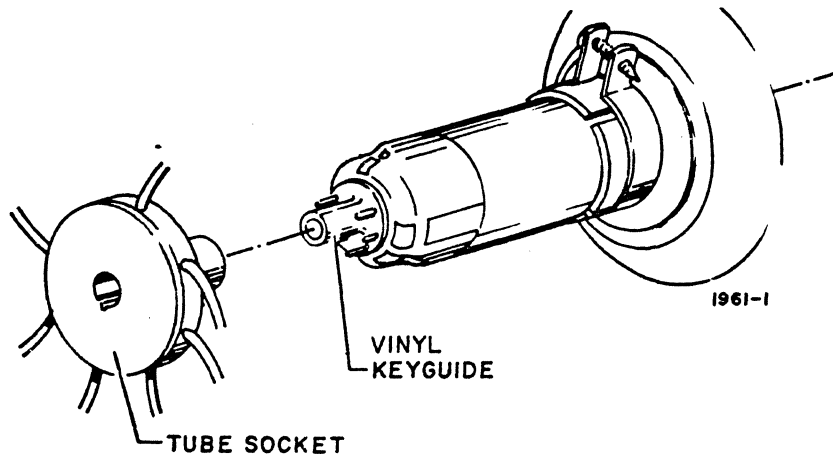

Figure CRT22. CRT Tube-Socket Removal
- 6) Pull crt tube socket carefully off end of crt (figure CRT22). Do not remove vinyl keyguide.